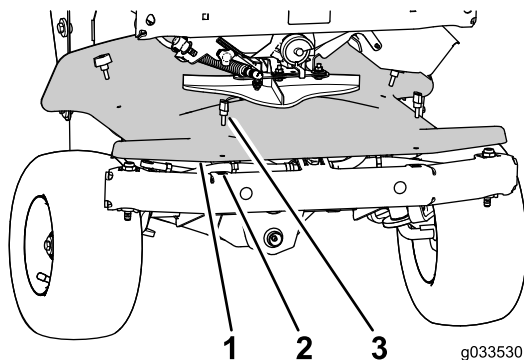

Figure 29
3. Remove the 4 thumbscrews that secure the front cover (below the impeller) to the chassis, and remove the cover (Figure 29).